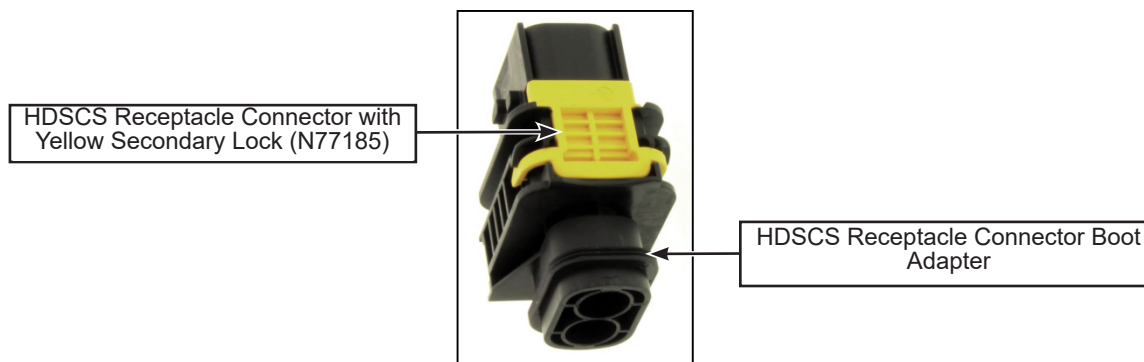

Figure 15 - TE Connectivity HDSCS Receptacle Connector
- 1.26. Insert the RED wire into position 1 and the BLACK wire into position 2 of the HDSCS receptacle connector PN N77185. Make sure that the yellow secondary lock of the plug connector is completely pressed (to move it from the unlocked to the locked position) after inserting both terminals (see Figure 15). Refer to Annex 2 for detailed instructions about terminals insertion and secondary lock.